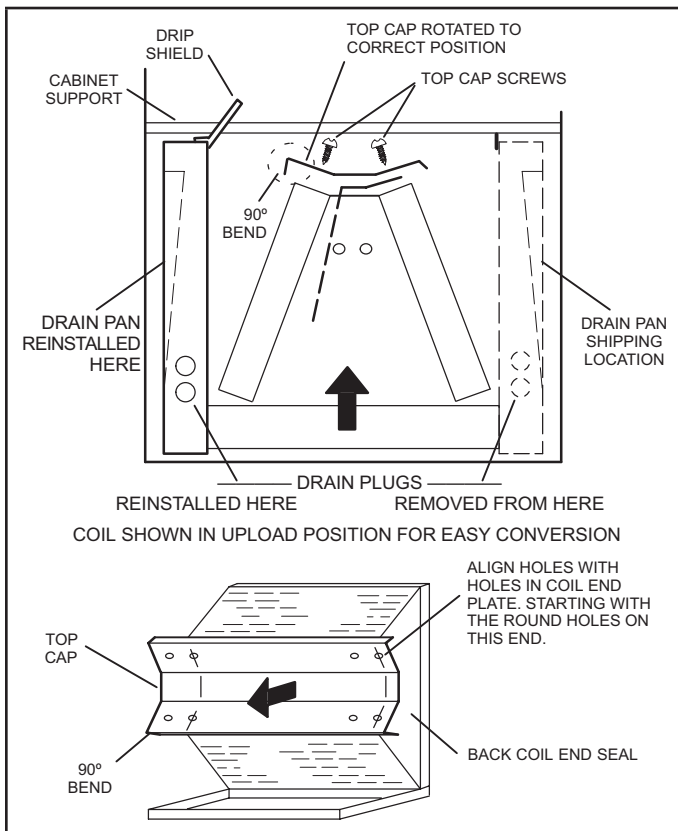

FIGURE 9. Field Modification for Left-Hand Discharge
- 5 - Remove screws from top cap. Remove horizontal drip shield screw located in the center of the back coil end seal as illustrated in figure 9.
- 8 - Rotate top cap 180° front-to-back and align with unused screw holes. Holes must align with front and back coil end plates. The top cap has a 45° bend on one side and a 90° bend on the other. **The 90° bend must be on the same side as the horizontal drain pan** as illustrated in figure 9.
- 9 - From the upflow position, flip cabinet 90° to the left and set into place. Replace blower assembly. Secure coil in place by bending down the tab on the cabinet support rail as illustrated in figures 9 and 10.